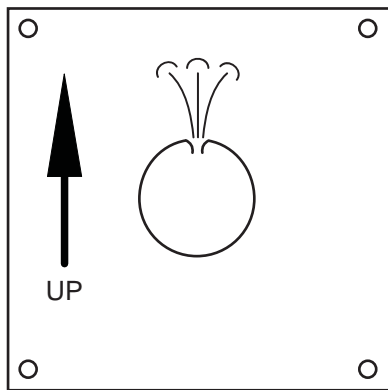

Fig. 14c
14.2 Insert diffuser in duct and align arrow to point up. Fasten the steam diffuser to the duct using four #8 x 1/2" screws provided in Kit #10S. Make sure the holes on the steam diffuser, where the steam exits from, are pointing up. Please see Fig. 14c.